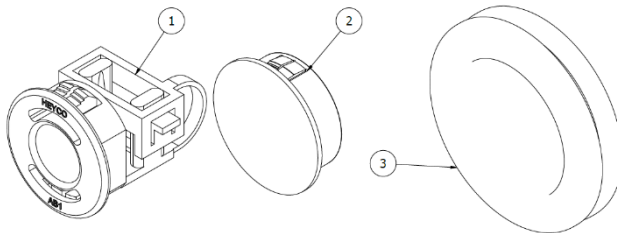

Figure 9 - Thermino TS Heat Battery Grommets & pipe interfaces
- Remove the respective rubber grommets (item 3 - Figure 9) in the outer housing and cut the centres (with a cross) with a knife.
- Move the temperature sensor cable strain relief fittings to the side you wish to make the entries/exits. Cover all other holes in the enclosure with the supplied blanking bushes (See Figure 9).